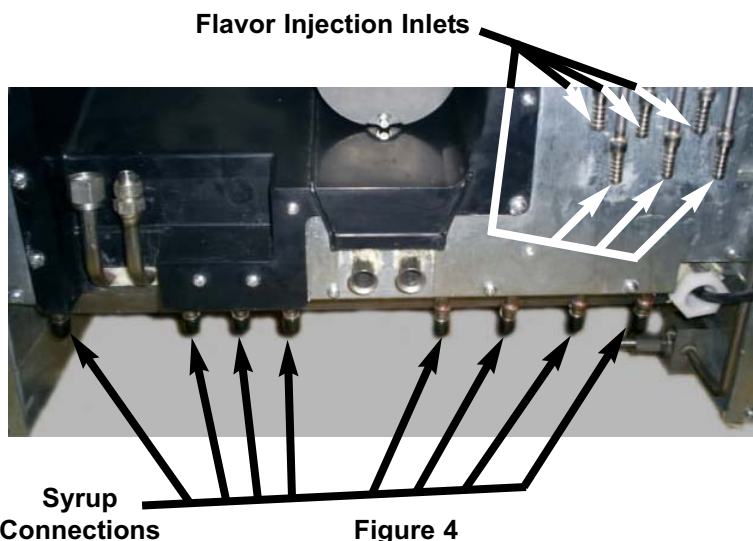

Figure 4
- G. Connect syrup supply lines to the 3/8 inch barb inlet fittings at the front of the unit (See Figure 4), using BIB (Bag-In-Box) pumps. Check for leaks.
- H. Connect flavor injection lines to the barb fittings at the front of the unit (See Figure 4). Check for leaks.